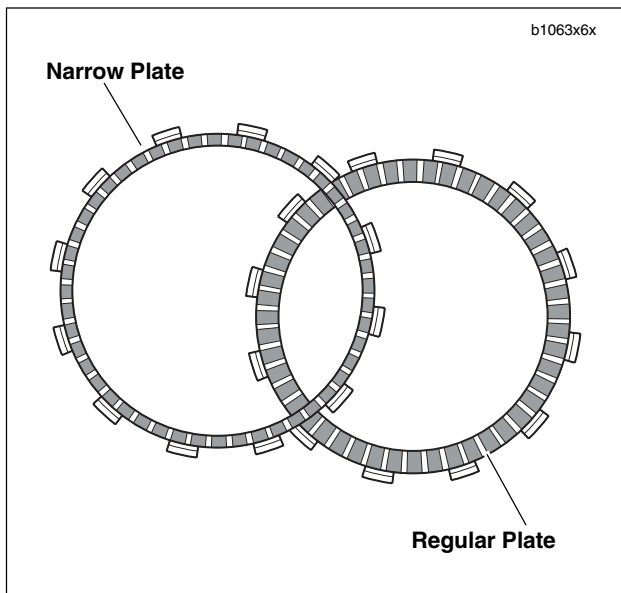

Figure 6-31. Friction Plates
2. See Figure 6-31. Install the narrow friction plate on the clutch hub engaging tabs on plate with slots in clutch shell.